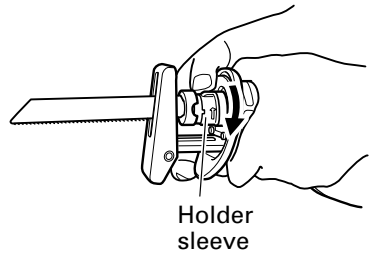

Fig. 10
- (4) Pull the holder sleeve back slightly in the direction of the arrow mark shown in Fig. 10 (in the direction opposite to the arrow marked on the holder sleeve). When you do this, the spring force will return the holder sleeve to the correct position automatically. There is no need to fasten the holder sleeve at this time. (Fig. 10)